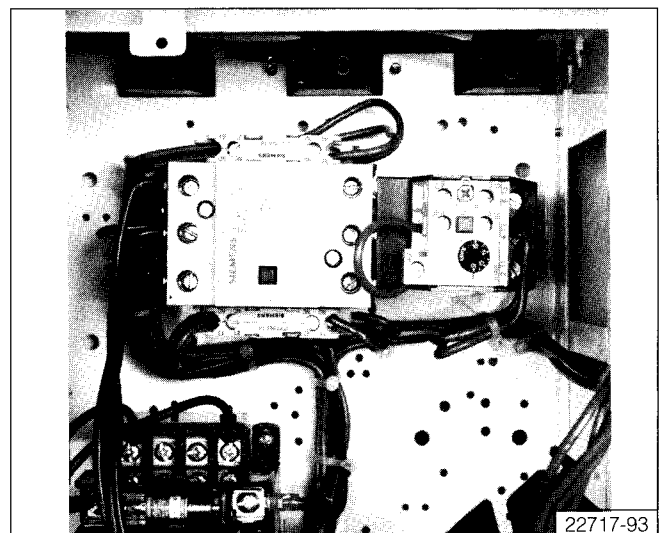

Figure 31: 3UA Overload Relay
Manual or Automatic Reset - The 3UA overload relay is set for HAND reset operation when shipped from the factory. The relay may be set for AUTO operation by depressing and turning the blue reset button counterclockwise to the position marked "A" (see **Figure 31**).
2. Verify the dial adjustment (see **Figure 31**). The setting should NOT be greater than the value shown in **Table 9**.